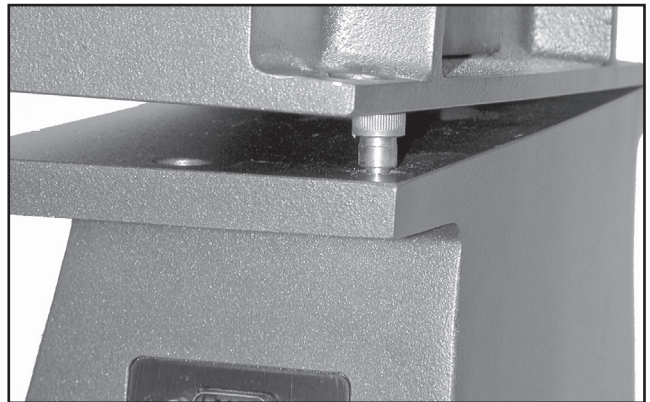

Fig. 34: Position the holes over the shoulder bolts. When they are in place, slide the OTA back so that the shoulder bolts lock into the slots.
- Tighten the Dec. lock (Pg. 10, Fig. 1, 17) to a firm feel only. With you on one side of the OTA and your assistant on the other side, grasp the two handles on each side and lift the OTA onto the top of the fork. Position the holes over the shoulder bolts. When they are in place, slide the OTA back so that the shoulder bolts lock into the slots (Fig. 34).